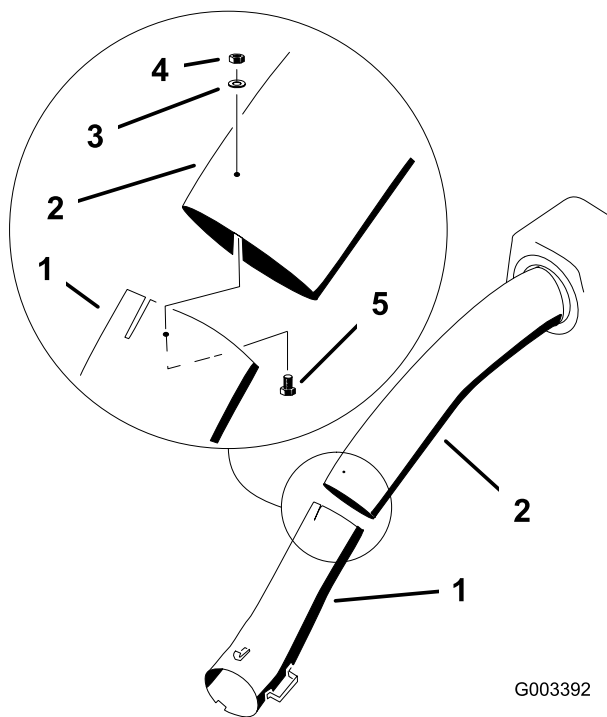

Figure 26
14. Join the upper and lower tubes with 3 bolts (#10 x 3/4 inches), 3 flat washers (7/32 inch), and 3 locknuts (#10) (Figure 26).